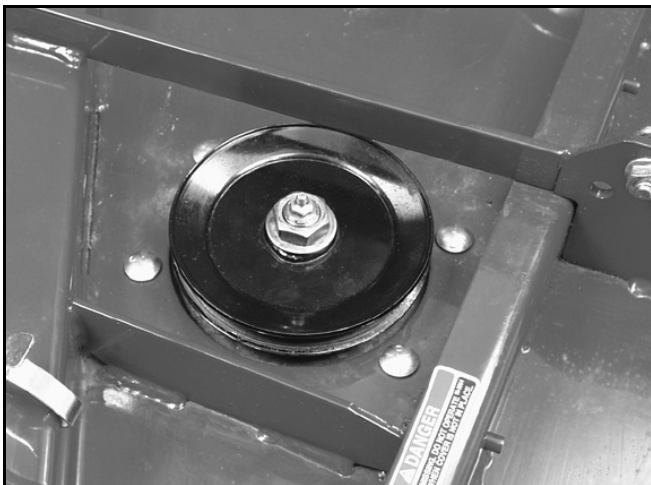

Figure 121
7. Remove the nut and washer retaining the spindle pulley. Then remove the pulley from the shaft (Figure 121).